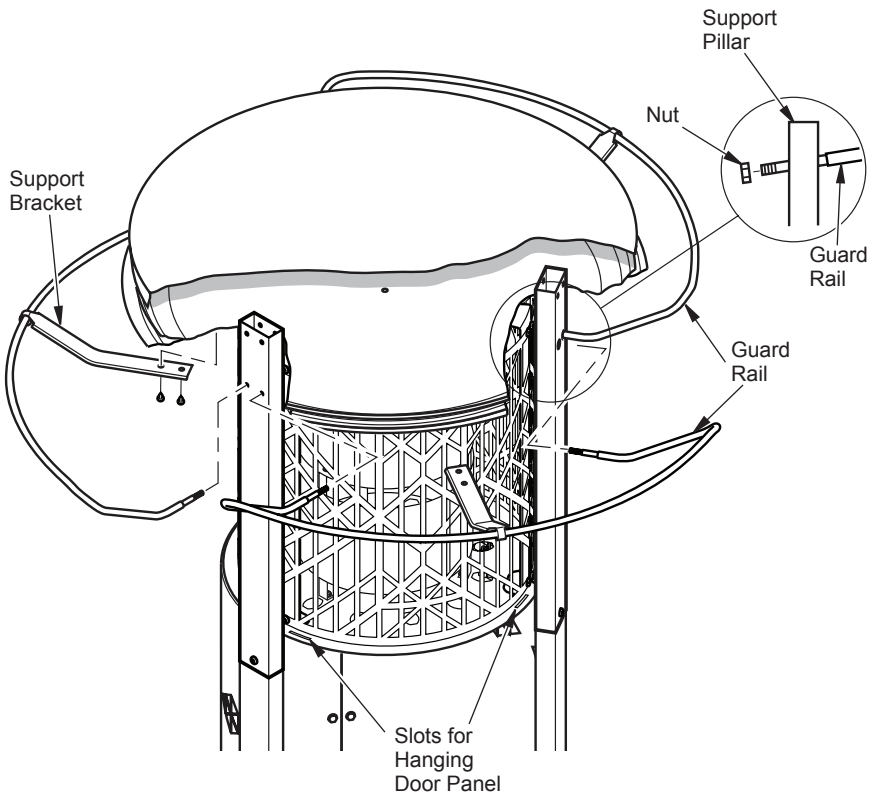

Figure 11 - Guard Rail Assembly (top and deflectors cut away for clarity)
18. Slide support brackets over guard rails as shown in Figure 11. Make certain brackets curve downward.
19. Insert guard rails into holes of support pillars (see Figure 11). Guard rails will go completely through support pillars. Attach nut (G) to ends of guard rails as shown in Figure 11.
20. Attach support brackets to bottom deflector using 2 screws (F) each as shown in Figure 11.